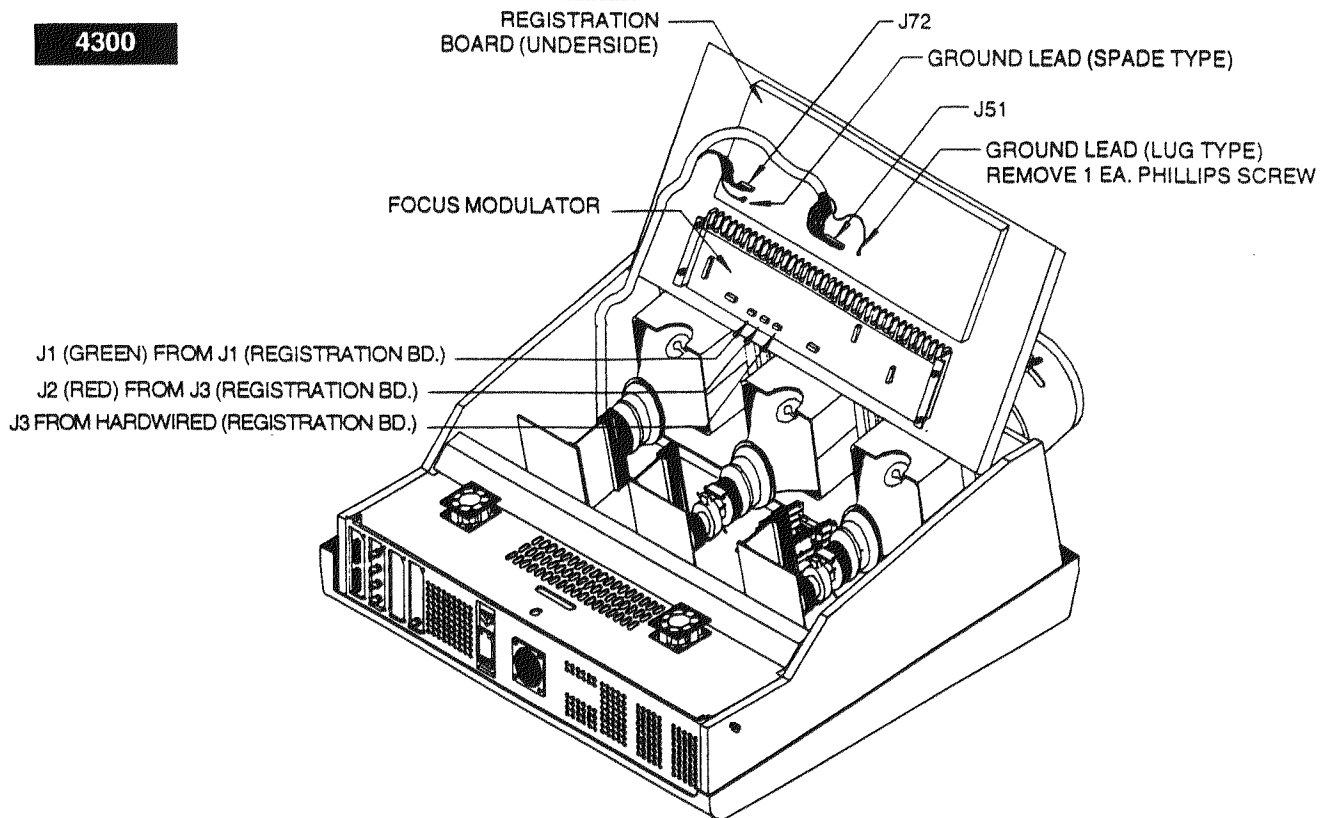

FIGURE 10-21B. 4300 REGISTRATION REPLACEMENT.
- STEP 6. On the Focus Modulator board, disconnect J1, J2 and J3. See Figure 10-22A (3300) and Figure 10-21B (4300).